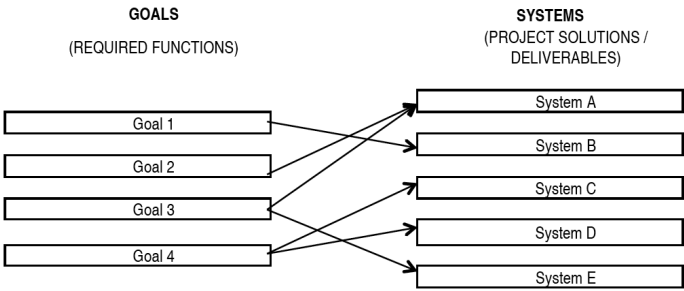

Figure 3.5 Goal and System Modelling (Adapted from Kelly, Male & Graham, 2004)
- Match the “Goals” with “Systems” to illustrate the relationship between the required functions and project solutions / deliverables / facilities / services / specified design features etc. and to address any mismatch or missing / additional link between “Goals” and “Systems”. Use model for illustration as Figure 3.5 below.